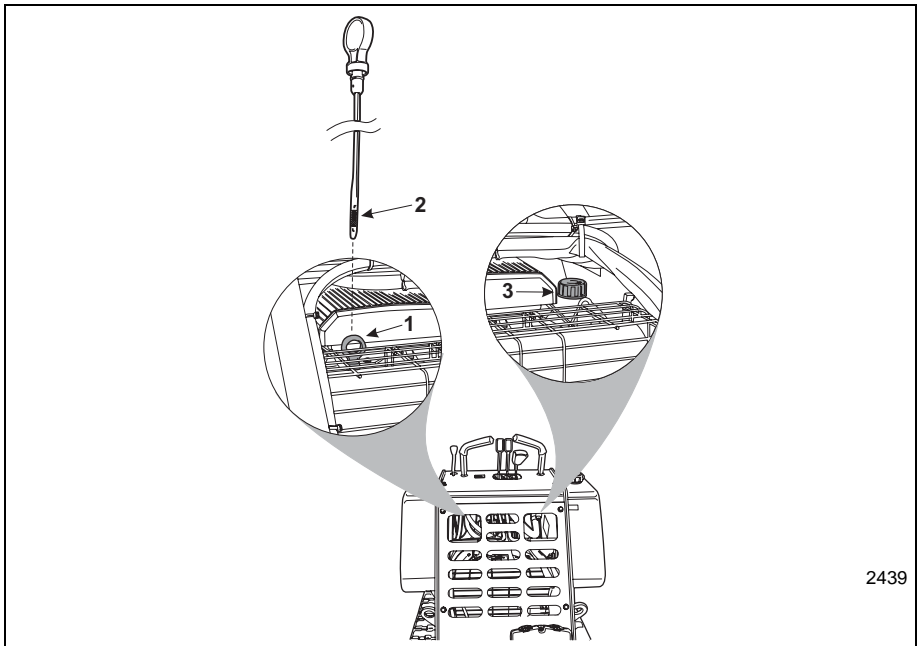

Figure 4-1 Fuel Level Check
- b. Pull out the dipstick (Item 1, **Figure 4-1**) and look for both the full and add oil lines (Item 2, **Figure 4-1**) indicated by the letters “F” and “A”. The correct oil level is between those two lines.
- c. If the engine oil level is below the add line, indicated by the letter “A” on the dipstick, carefully add the proper amount of oil through the engine oil filler (Item 3, **Figure 4-1**). It is important to add the correct type of engine oil as stated in the engine manual.